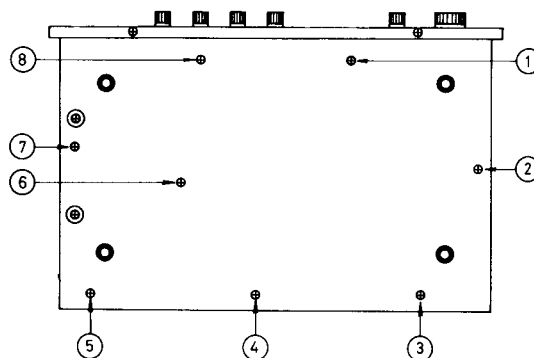

Fig. 6
1. Remove eight (8) bottom board-mounting screws (① ~ ⑧), as shown in fig. 6.